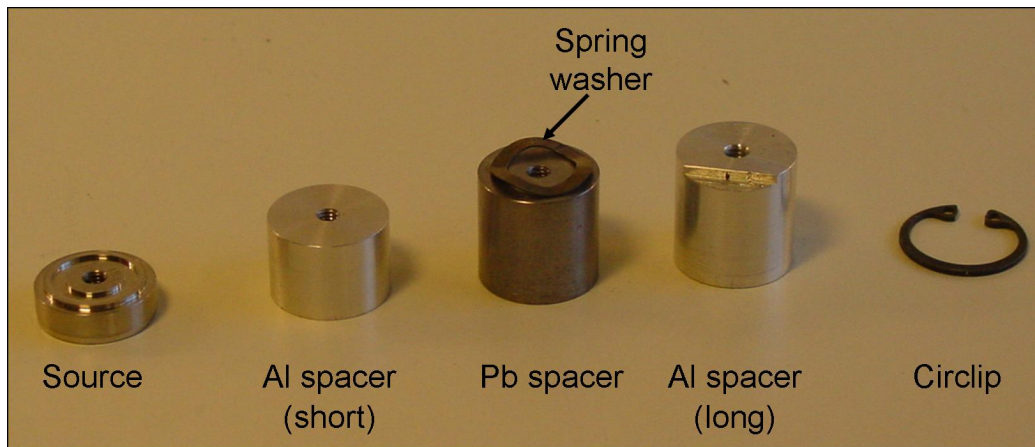

Figure 4.15: Items in the irradiator.
5. The items shown in Figure 4.15 are located within the irradiator and must be removed and handled individually using the special tools delivered with the beta source. The source will only be present if the irradiator is to be unloaded